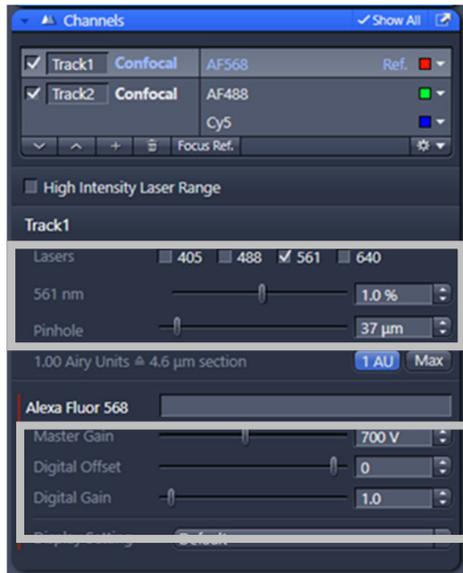

Fig.21 Channels tool
In the **View – Dimensions** View Option Control Block, activate **Range Indicator** tick box (Fig. 21).
- When the image is saturated, reduce AOTF transmission in the **Laser** control section of the **Channels** tool (Fig. 21).